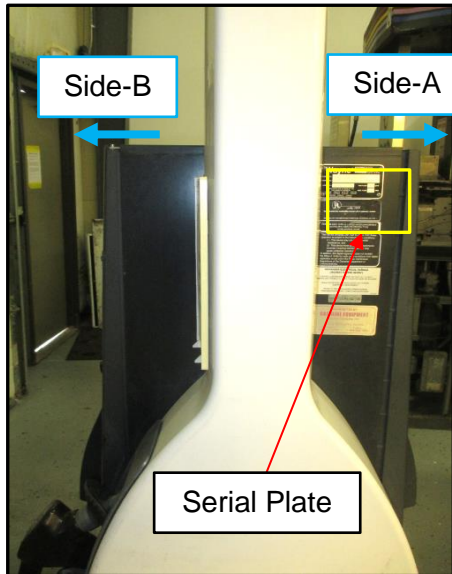

Fig 1.1a – Identifying Side-A using Serial plate
- Identify the A Side of the dispenser. The side that the serial plate is mounted on, typically located on the upper left or right hand side of the dispenser, is Side-A. However, if no serial plate is present, Side-A can be identified by opening up the Dispenser Main Door and locating the IGEM board on the Electronics Mounting Bracket inside of the Electronics Cavity. (Fig 1.1a,b)